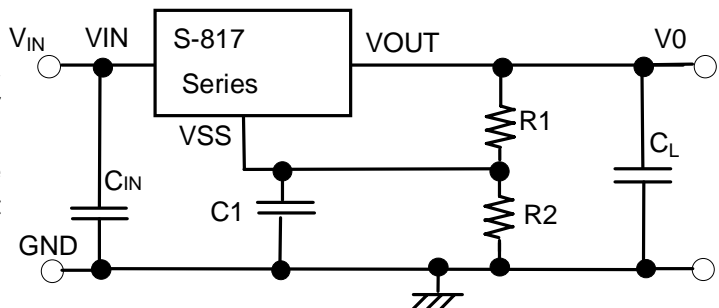

Figure 13 Voltage Adjustment Circuit
The output voltage can be boosted by using the configuration shown in Figure 13. The output Voltage V_O can be calculated using the following equation (V_{OUT} (E):Effective output voltage):